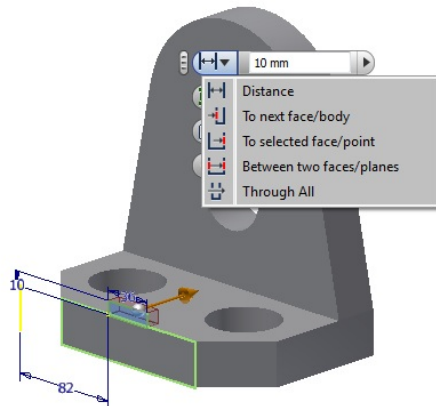

Figure 5-86 Choosing the *To selected face/point* option
- Define a new sketch plane on the front face of the model and create the rectangular join feature, refer to Figure 5-86.
2. Choose the **To selected face/point** option from the mini toolbar, as shown in Figure 5-86. Alternatively, select **To** from the **Distance** drop-down list in the **Extents** area of the **Extrude** dialog box; the **Select surface to end the feature creation** button is displayed below the drop-down list. This button is chosen by default.